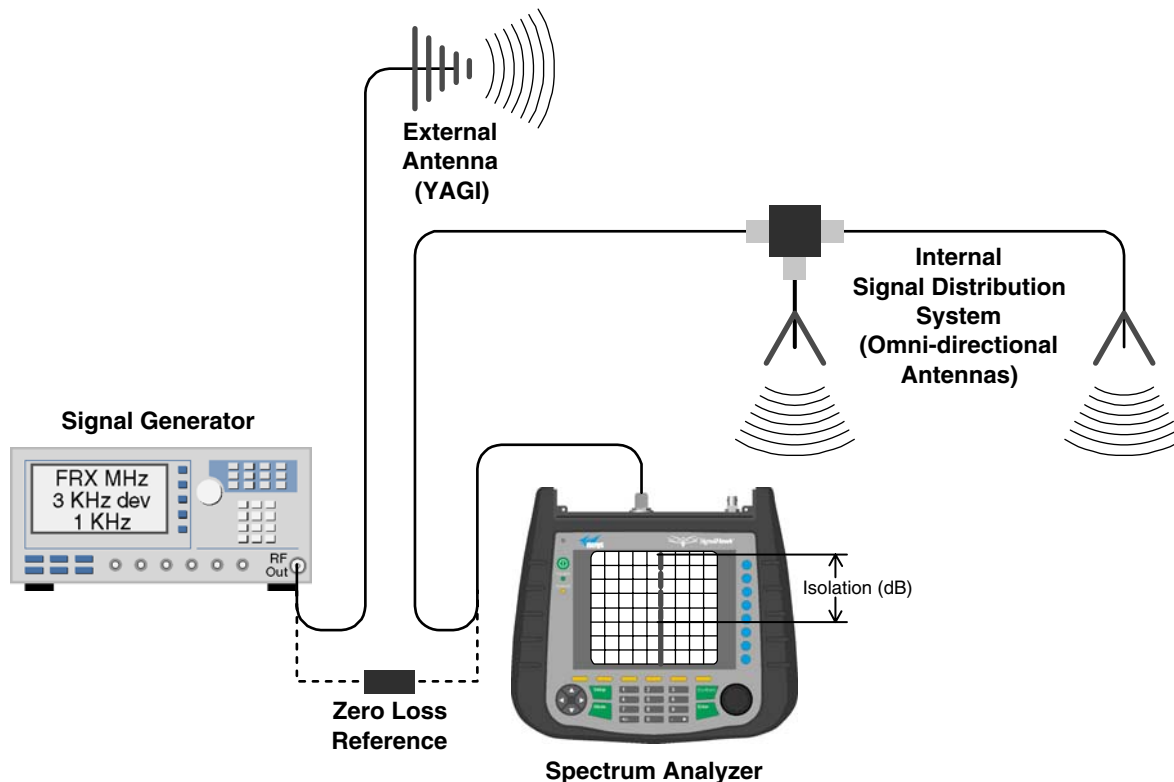

Figure 2: Typical test equipment interconnection for measuring antenna isolation.
- Figure 2: Measuring Antenna Isolation..... 3**
- 4) Referring to Figure 2, connect the generator test lead to one side of the antenna system and the spectrum analyzer to the other then observe the signal level. The difference between the observed level and 0 dBm is the isolation between the sections. If the signal is too weak to observe, the spectrum analyzer's bandwidth may have to be narrowed and its input attenuation reduced. The isolation value measured should exceed the signal booster's gain figure by at least 15 dB.